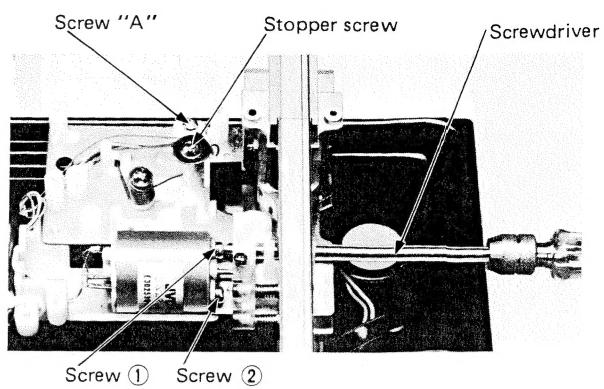

Fig. 13
1. Remove the stopper screw. (Fig. 13)
- To remove the motor, remove screws ① and ② as shown in Fig. 13.
- Remove screw "A" (in Fig. 13), then remove the mechanism base ass'y from the bottom board.